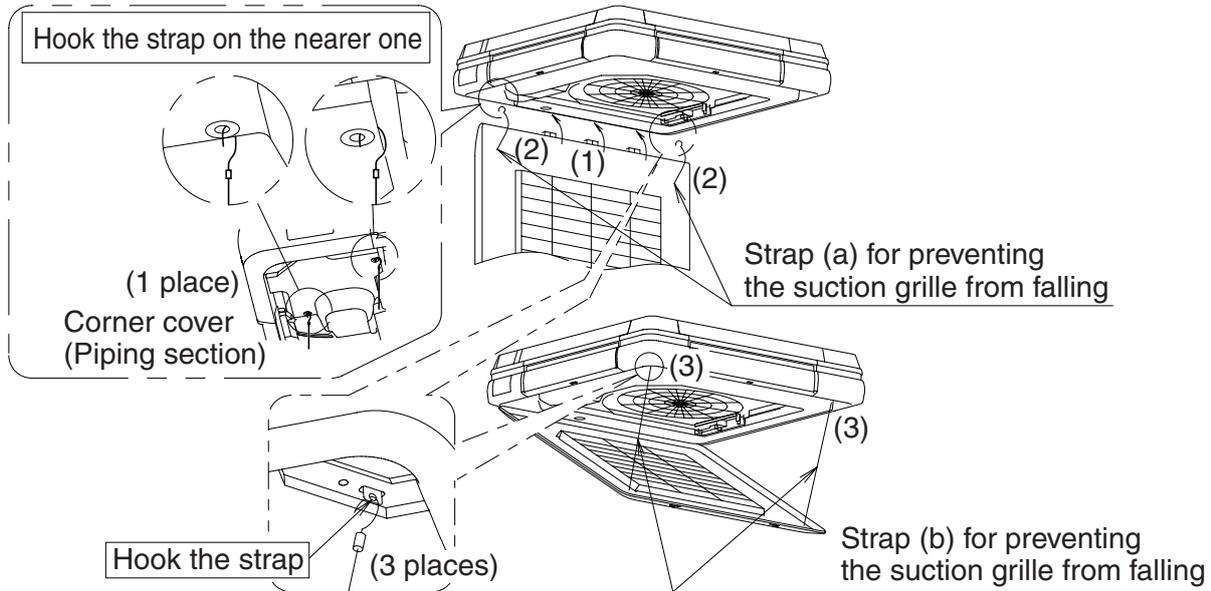

Fig. 49
- After attaching the suction grille in opposite order mentioned in the clause “4. PREPARATION BEFORE INSTALLATION - (3)” (**Refer to Fig. 49-(1)**), hook the strap (a) for preventing the suction grille from falling (**Refer to Fig. 49-(2)**).
- Hook the strap (b) for preventing the suction grille from falling. (Refer to Fig. 49-(3))